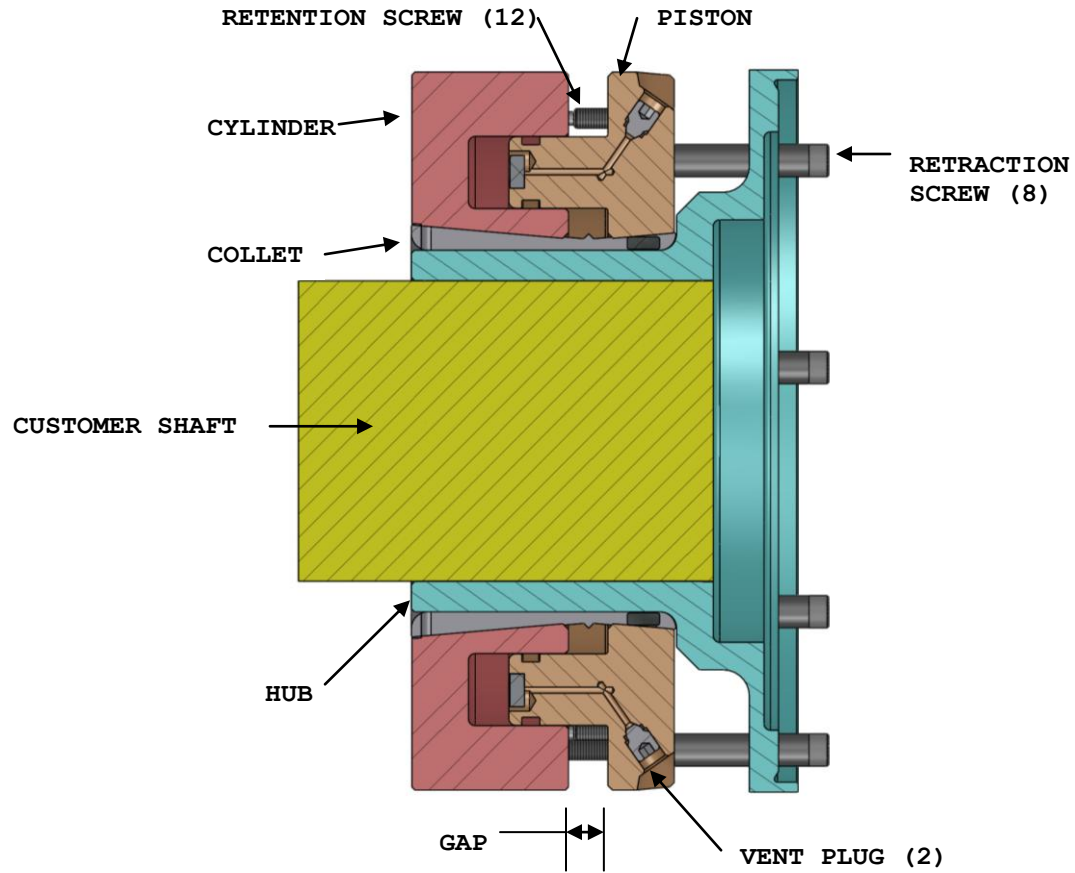
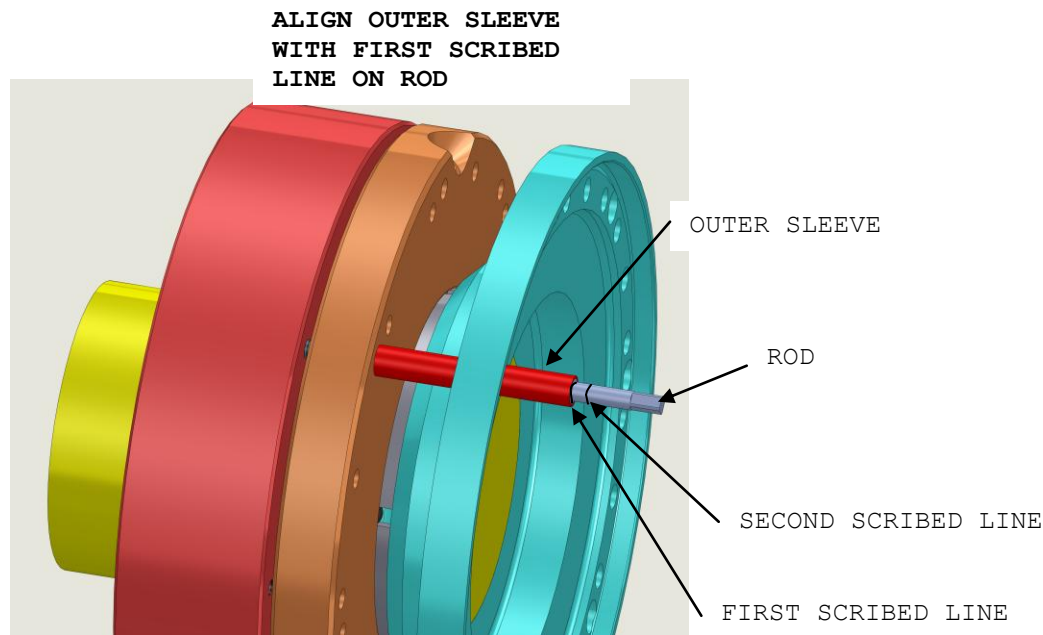

FIGURE 1a - HTC/Hub Assembly Cross Section
Figure 5a - Setting Initial Grip Position
The Hydraulic Torque Coupler (HTC) connects the hub to the shaft. It accomplishes this by squeezing the hub OD with very high pressure. This pressure forces the hub to squeeze down onto the shaft producing a tight fit. Squeeze is produced when hydraulic pressure is applied. This separates the piston and cylinder of the HTC. As these rings separate, they ride up the slopes of the collet generating interference. Figure 1a shows the hub mounted on the shaft using an HTC. Prior to assembly, the hub and shaft have been machined to produce a keyless, cylindrical slip fit.
2.3.1 Remove the vent plugs (see Figure 1a). Tighten the retraction screws to 2-5 ft-lbs. Be sure the gap is closed (see Figure 2a).
2.4.11 The proper setting of the HTC is accomplished by the separation or gap between the two halves of the clamp (see Figure 1a). Two Special Gap Tools (Riverhawk PN 7500596 for the load-end, and 7500894 for the drive-end) has been provided to facilitate this setting. Be sure you maintain the First Grip Position from the previous step until the tool is in place. Thread the gap tool into one of the retraction screw holes until the outer sleeve aligns with the first scribe line on the rod (see Figure 5a). The tool is spring loaded so you will need to push and turn in order to start the thread.
2.4.18 Place vent plugs 2002429 into both hydraulic ports after all oil is drained (see Figure 1a).